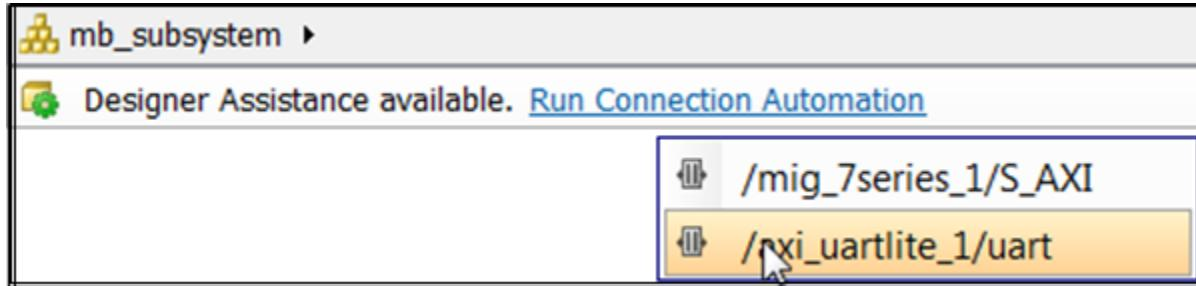

Figure 111: axi_uartlite_1
5. Click **Run Connection Automation** and select **/axi_uartlite_1/uart**. (Figure 111).